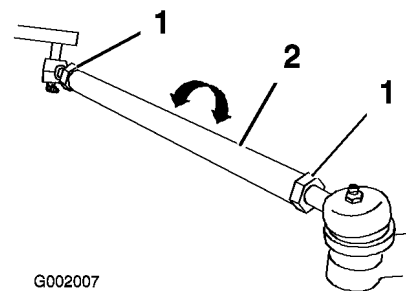

Figure 60
5. If the measurement does not fall within the specified range, loosen the jam nuts at both ends of the tie rods (Figure 60).